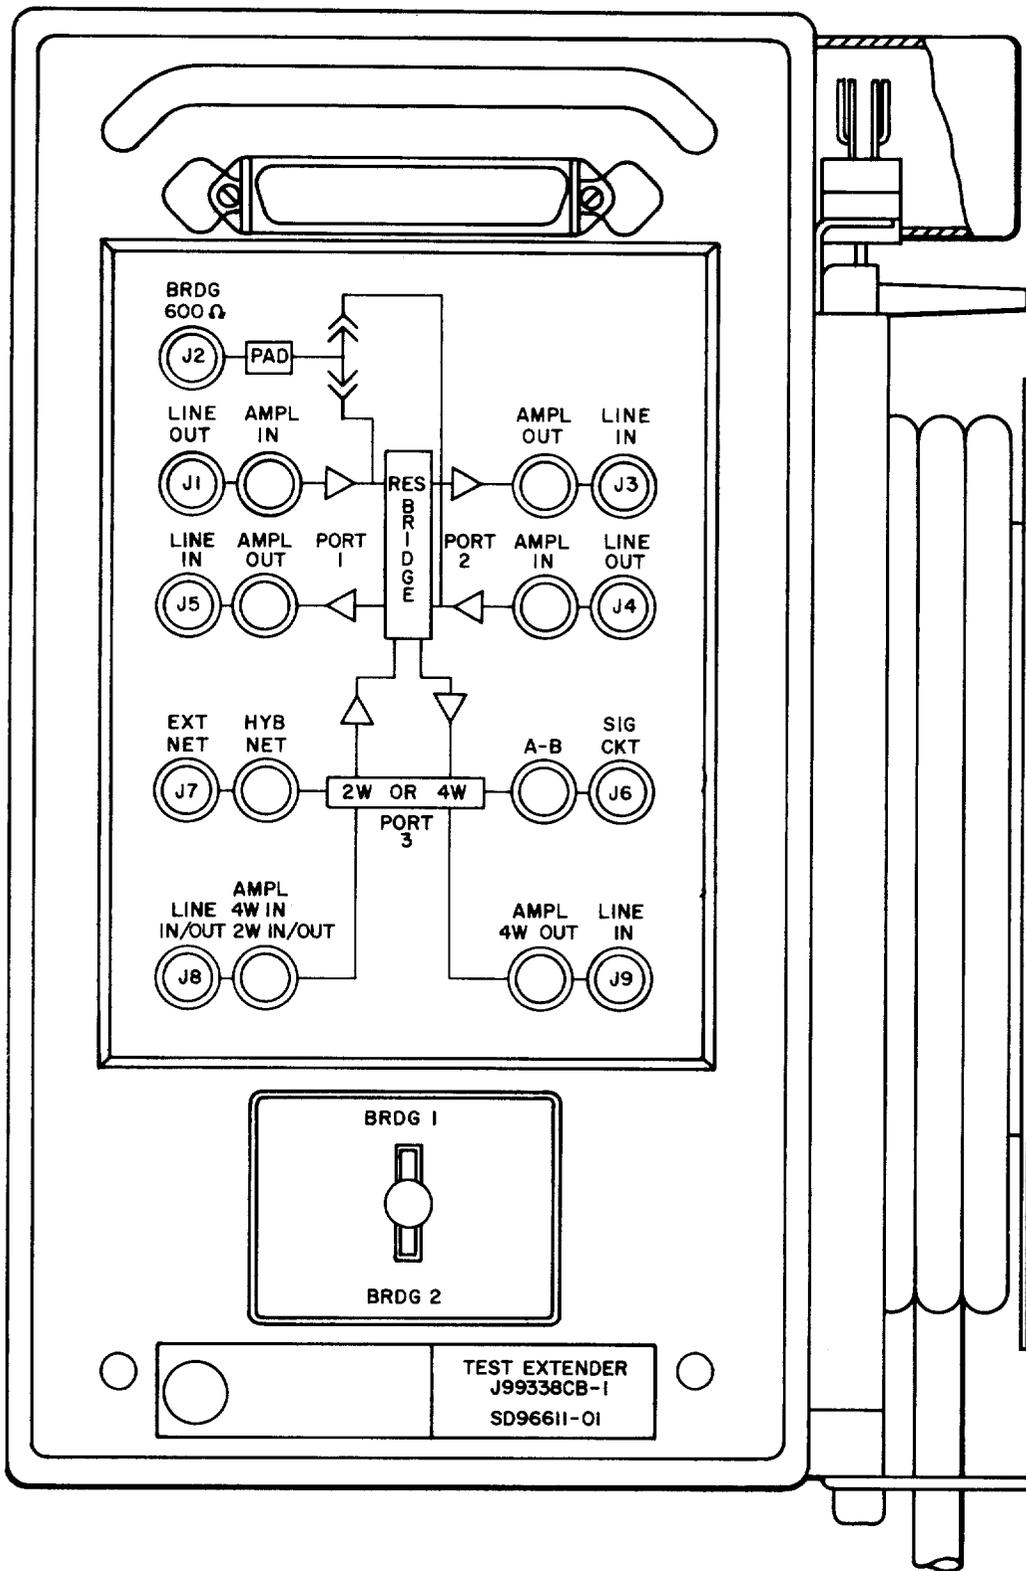
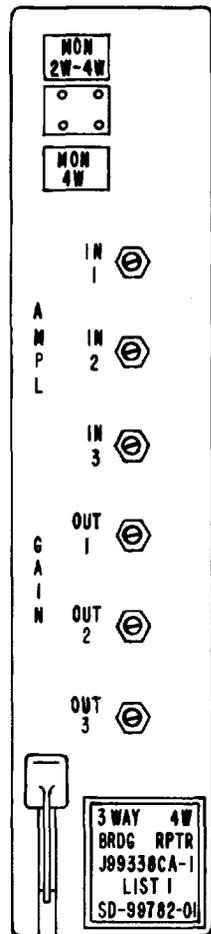

Fig. 1—Test Extender
Fig. 2—3-Way 4-Wire Bridge
1.01 This section describes the J99338CB 3-way 4-wire bridging repeater test extender and its associated ED-1C336-30 extender cable (SD-96611-01). The test extender (Fig. 1) is required for alignment of the 3-way 4-wire bridging repeater (Fig. 2), which is described in Section 332-121-100.